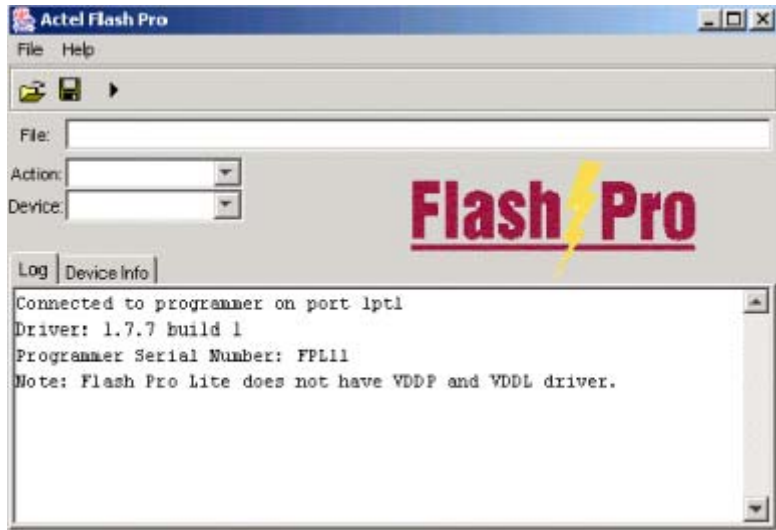

Figure 5-28. FlashPro Lite Successful Connection
5. Click **Connect**. A successful connect, or any errors, appear in the Log window, as shown in Figure 5-28.